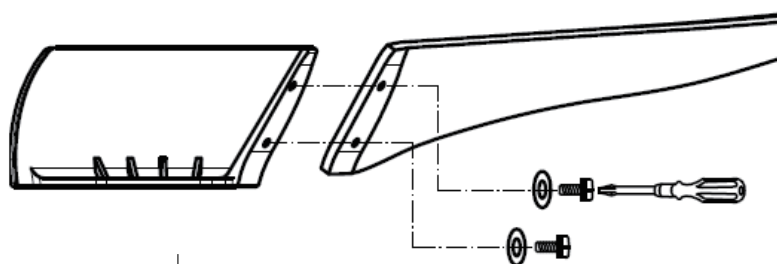

Fig. 7
- ◆ Secure the blade to the blade holder by tightening the 2 blade screws with washer. Fig.7